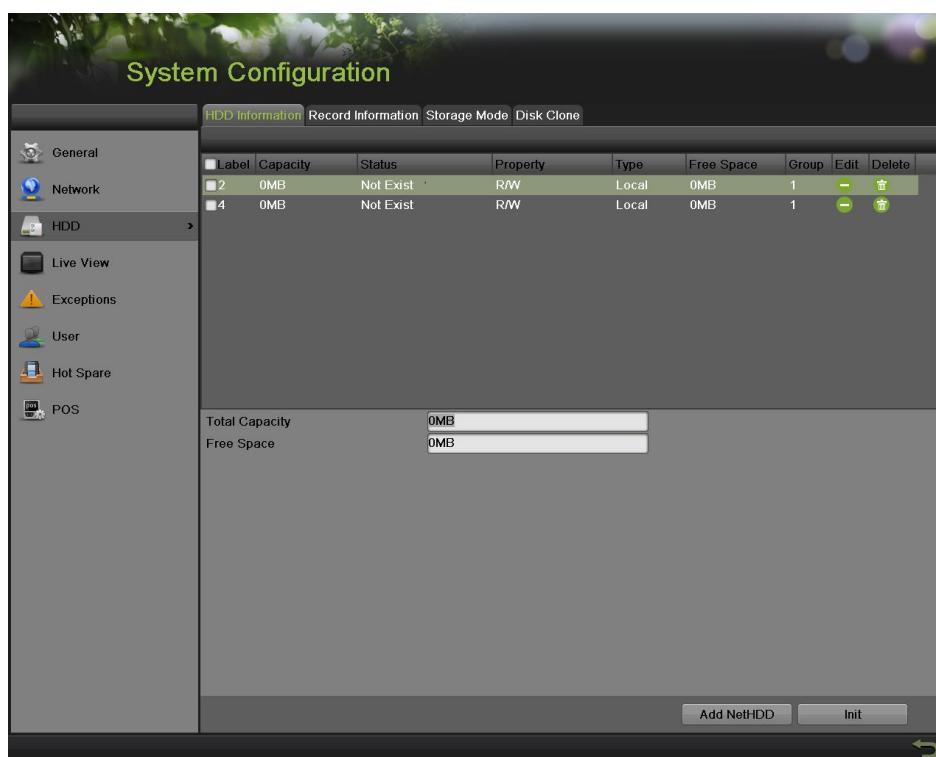

Figure 191 HDD Management Menu
1. Enter the HDD menu, shown in **Figure 191** by going to Menu > System Configuration > HDD.